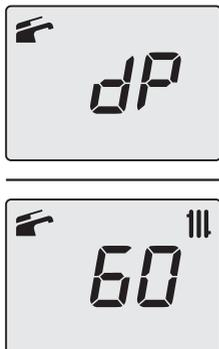

Fig. 10.27
- Press further key 15 to vary again the output in flue sweep mode: when the LCD display displays the letters **dP** that alternate with the heating water temperature value (e.g. **60**), the "flue sweep function" is at maximum output in domestic hot water mode (Fig. 10.27).